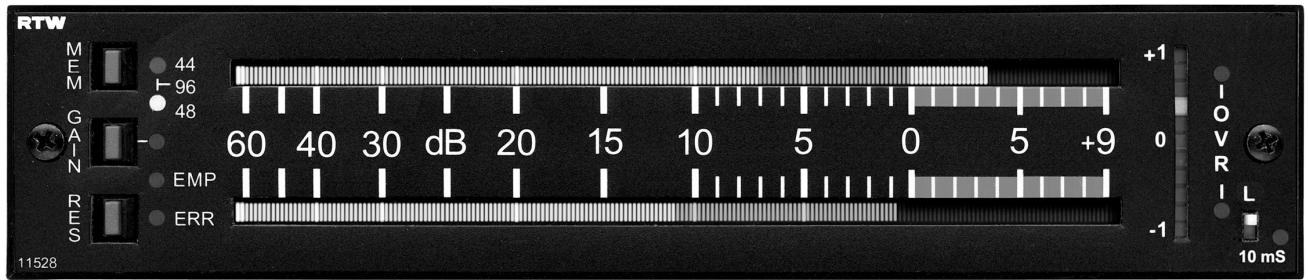
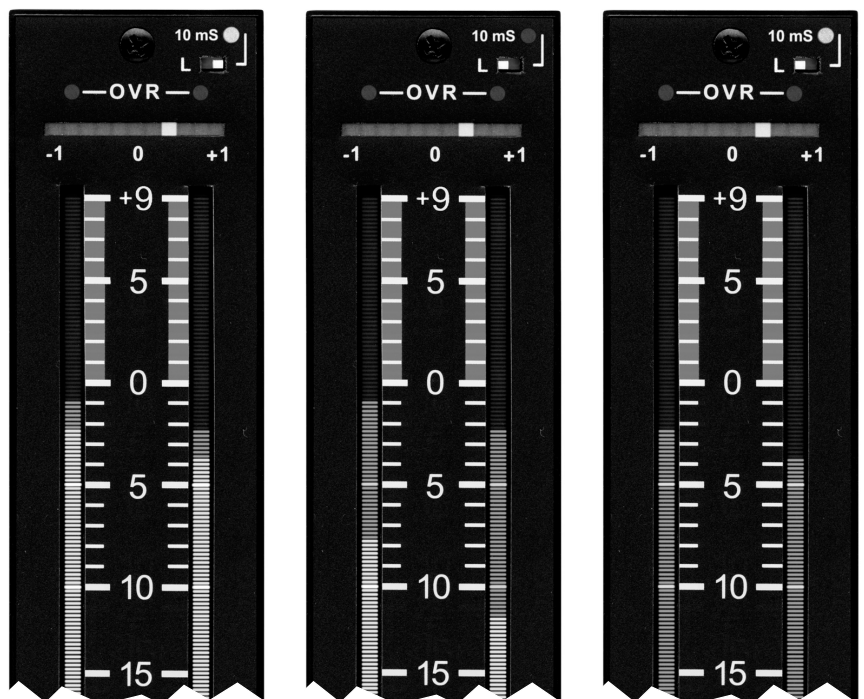

Fig. 4-1: Peakmeter 11528G
Fig. 4-2: Example 1
The digital Peakmeter 11528G is designed for use in radio and TV broadcasting applications. The DSP based instrument is housed in a compact metal case. It features AES/EBU in- and outputs. The scale is ranged from  $-60$  to  $+9$  dB. The reference mark  $0$  dB is adjusted to the digital level of  $-9$  dB FS. The headroom is red marked similar to analog instruments. The signals are displayed on a high resolution gas plasma display with 201 segments per channel both once without any weighting (sample-precise display) and once highlighted and super-imposed with an integration time of  $10$  ms (see Fig. 4-2, example 1). Alternatively the sample-precise peak level display with the highlighted and super-imposed RTW loudness display can be selected (see Fig. 4-2, example 2). Using the external function control additionally it is possible to use the  $10$  ms only function showing the peak level with an integration time of  $10$  ms independent from the position of the switch L/ $10$  ms on the front panel (see Fig. 4-1, example 3).
- 10 ms-LED - The red 10 ms-LED placed on the right resp. above the top of the lower resp. right bargraph display in normal mode indicates the use of the 10 ms integration time for the additional highlighted bargraph (see Fig. 4-2, example 1). If this LED is OFF the highlighted bargraph reads the loudness function (see Fig. 4-2, example 2). However when the 10 ms only external function control (see section 5.4, pin 16a) is activated the LED is lighted independently from the position of the L/10 ms slide switch (see Fig. 4-2, example 3).
**Examples:** Fig. 4-2
- **SLIDE SWITCH: L/10 ms** - The use of this pushbutton or its equivalent external function toggles the reading of the additional highlighted bargraph between loudness (see Fig. 4-2, example 2) and 10 ms (see Fig. 4-2, example 1) integrated level display. Either one reading will be shown as a brighter bar on top of the normal unweighted (sample) level display.
However when the 10 ms only external function control (see section 5.4, pin 16a) is activated the L/10 ms slide switch (see Fig. 4-2, example 3) has no function.